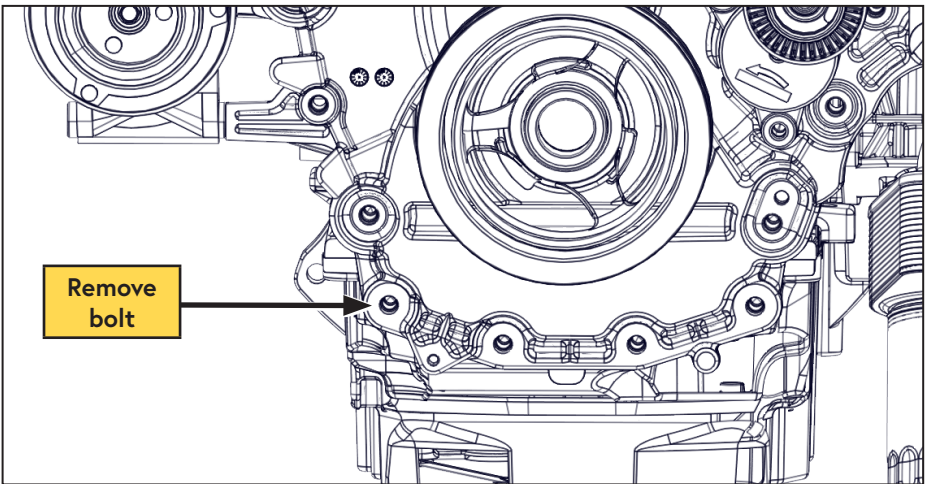

Figure 17 — Remove cam cover bolt
- Remove the cam cover bolt and discard it (Figure 17).